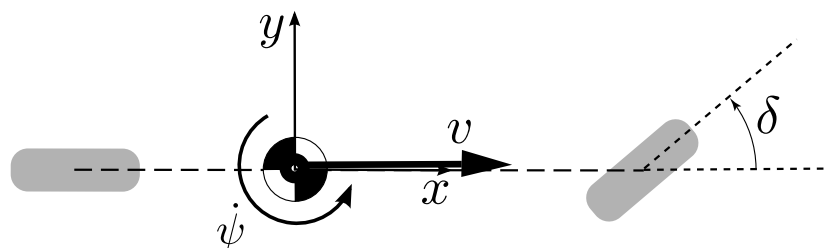

Figure 6: Bicycle model defining steering angle δ (drawn in positive direction after “ISO 8855” coordinate system \Rightarrow z up) and speed v .
- DE7.3.15 [DV ONLY] Beside RES messages (see DE7.4.8), the messages defined in Table 9 must be provided to the DL with a cycle time of 100 ms each. Steering angle δ and vehicle coordinate system is defined in figure 6.